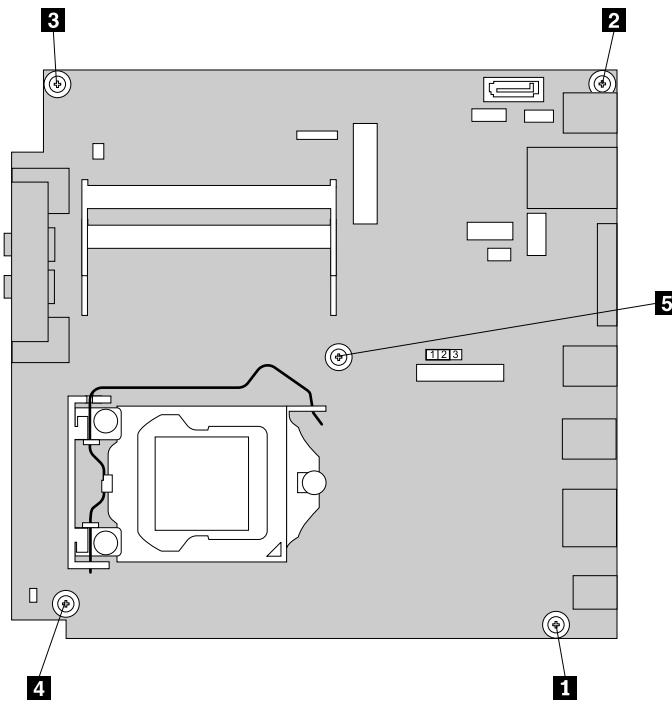

Figure 204. Removing the five screws that secure the system board
- Install the new system board into the chassis by aligning the five mounting studs in the chassis with the corresponding holes in the new system board. Then, install the five screws to secure the system board by installing screw **5** to screw **1** as shown in Figure 204 “Removing the five screws that secure the system board” on page 245.